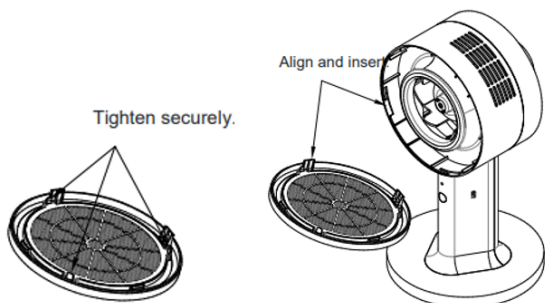

Fig. 11
11. Ensure the filter holder is securely fastened to the panel fastener [Fig. 11].